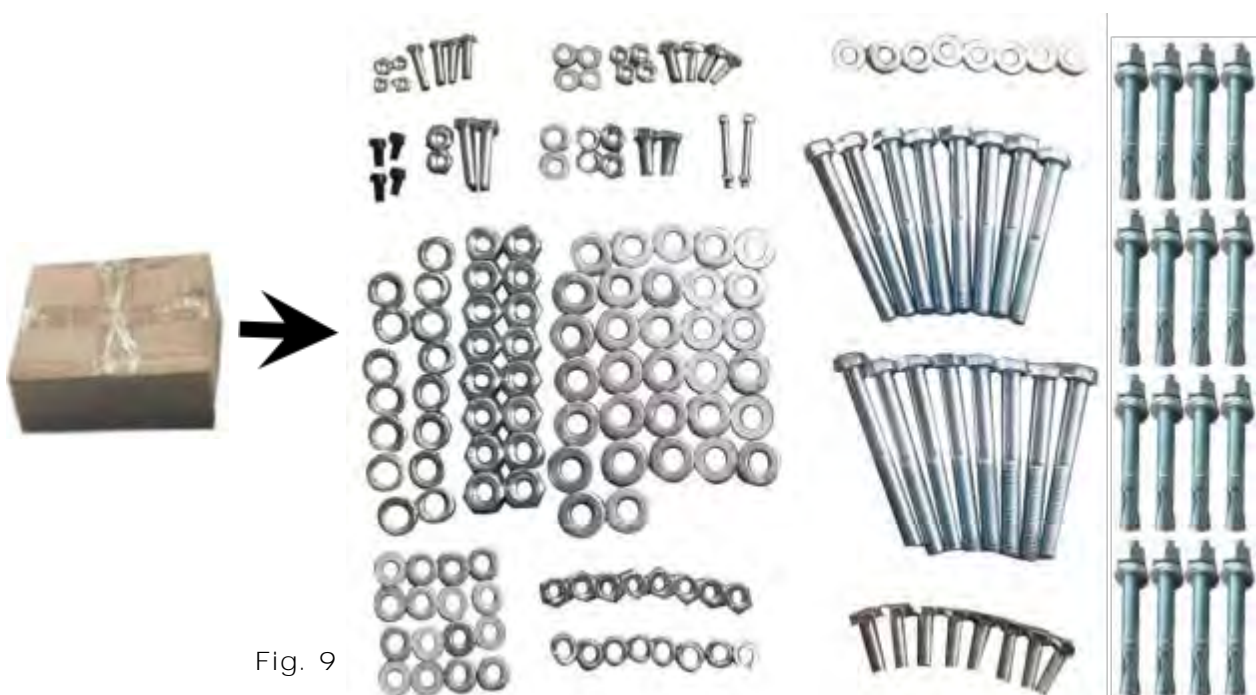

Fig. 9
6. Check the parts of the parts bag (See Fig. 9) .